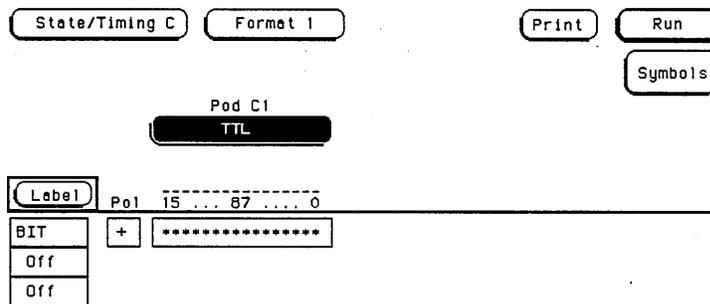

Figure 4-5. Pod Threshold Field
- d. Touch the pod threshold field as shown in figure 4-5.